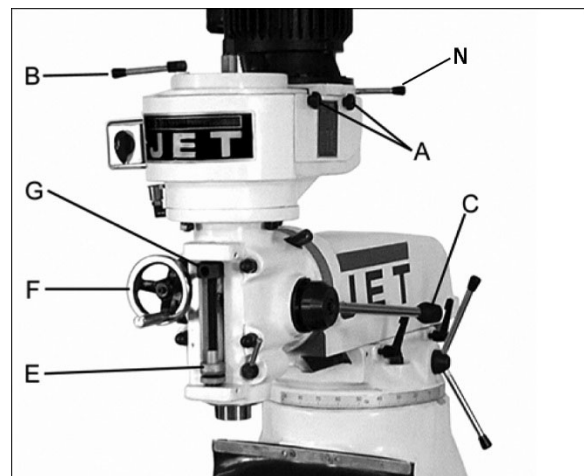
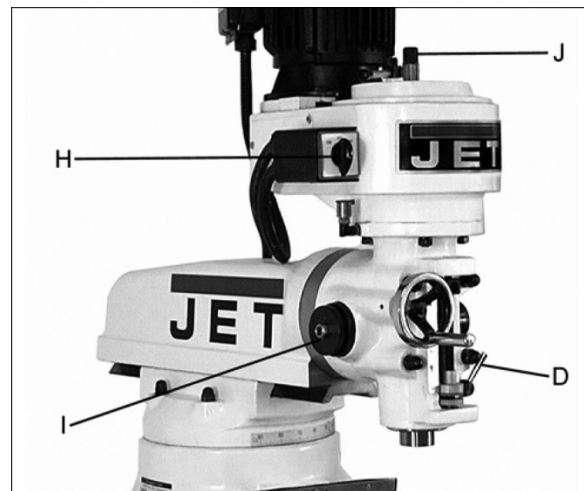

Figure 6: controls
Figure 7: controls
Refer to Figures 6 through 8:
- A. **Belt Cover Lock Knobs** (A, Figure 6) – Loosen and remove belt cover to change belt position on the pulleys.
- B. **Spindle Brake** (B, Figure 6) – Move in either direction to stop spindle once power has been turned off.
- C. **Coarse Feed Handle** (C, Figure 6) – Rotate counterclockwise to lower spindle. Return spring will automatically retract spindle once handle is released. Handle can be removed when not in use.
- D. **Quill Lock** (D, Figure 7) – Rotate handle clockwise to lock quill in position; counterclockwise to release.
- E. **Micrometer Adjusting Nut** (E, Figure 6) – For setting specific spindle depth. Each graduation on the nut represents 0.001" of depth, and corresponds to the adjacent scale.
- F. **Manual Fine Feed Handwheel** (F, Figure 6) – Must engage fine feed (I, Figure 7) for handwheel to function.
- G. **Quill Stop** (G, Figure 6) – Used in conjunction with micrometer adjusting nut for predetermined depth.
- H. **Reversing Switch** (H, Figure 7) – Switches rotation of spindle. For 3-phase motor, there is an additional low and high-speed option.
- I. **Fine Feed Engagement** (I, Figure 7) – Turn clockwise until tight. This engages the manual fine feed; counterclockwise to release.
- J. **Draw Bar** (J, Figure 7) – Located at top of head. This is used to tighten an R-8 collet or R-8 tool into the quill. Tighten draw bar enough to hold tool securely during milling operations.
- N. **Belt Tension Lever** (N, Figure 6) – Slides motor pulley to release tension on belt.
1. Unscrew two knobs (A, Figure 7) and remove belt cover.
NOTE: The 3-phase motor has an additional high and low-speed setting (H, Figure 7).
1. Engage fine feed by rotating knurled nut (I, Figure 7) clockwise until tight. The handwheel (F, Figure 6) can now be used to raise and lower the spindle.
1. Lock spindle by turning spindle brake (B, Figure 6) left or right.